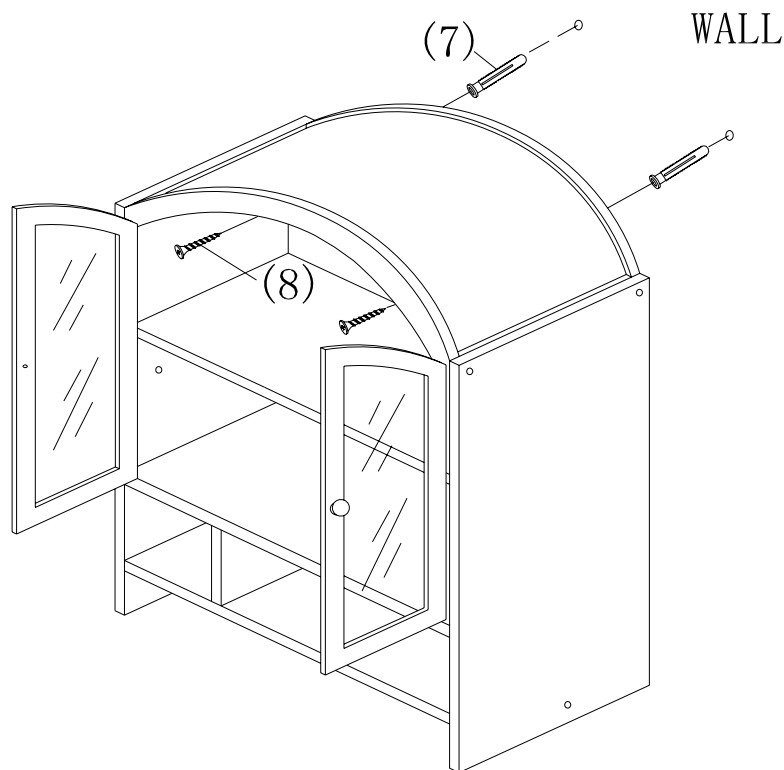

FIGURE 4
7. DRILL TWO 1/4" DIAMETER HOLES ON WALL, THE DISTANCE BETWEEN TWO HOLES SHOULD MATCH TO THE PREDRILLED HOLES ON BACK PANEL (I). FIT PLASTIC ANCHORS (7) INTO THE HOLES ON WALL. USE SCREWDRIVER TO SCREW LARGE FLAT HEAD WOOD SCREWS (Ø4X38mm) (8) THROUGH PREDRILLED HOLES ON BACK PANEL (I) INTO PLASTIC ANCHORS (7). (AS SHOWN IN FIGURE 4)